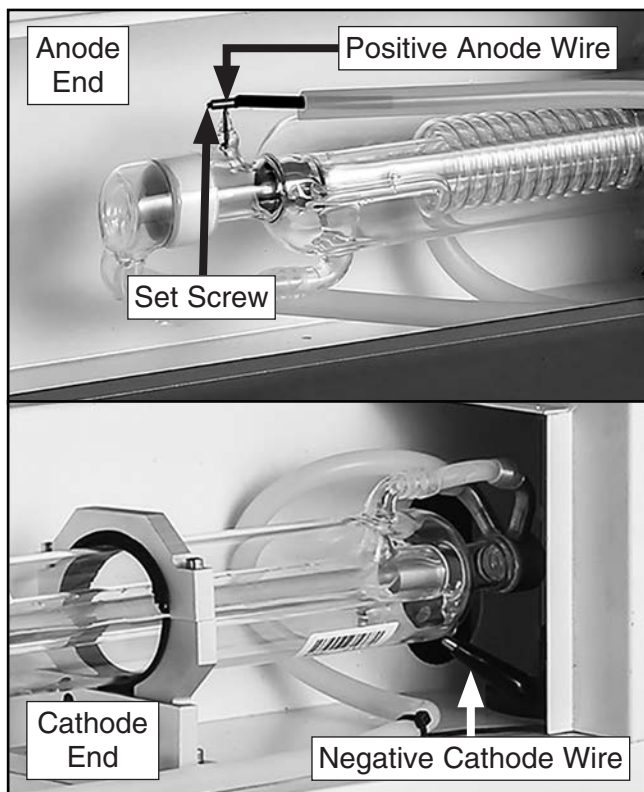

Figure 90. Location of laser tube anode/cathode wires.
17. Install anode wire on positive (+) anode terminal, and tighten set screw on end of wire, as shown in **Figure 90**.
18. Install cathode wire on negative (-) cathode terminal by using attached alligator clip on wire, as shown in **Figure 90**.